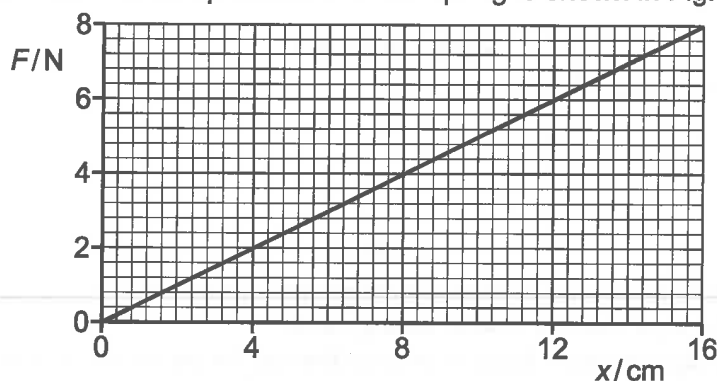

Fig. 4.1
- (b) A spring is fixed at one end. A compressive force F is applied to the other end. The variation of the force F with the compression x of the spring is shown in Fig. 4.1.